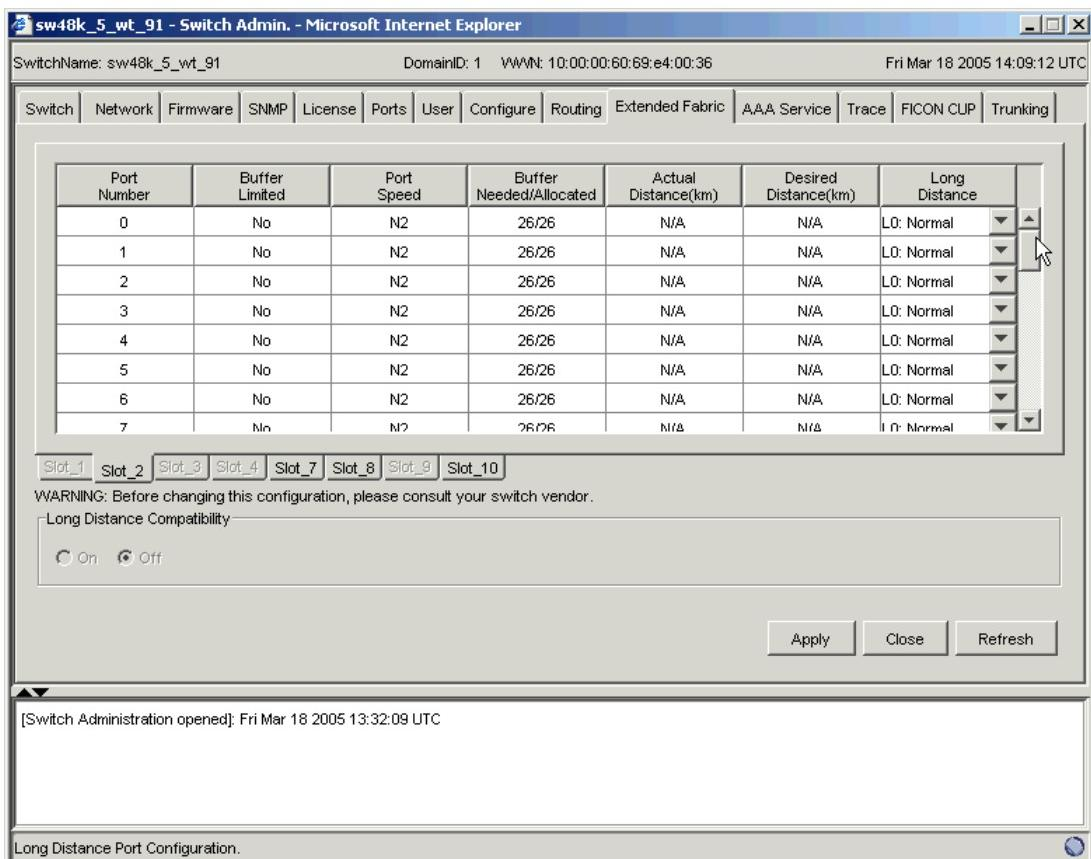

Figure 24 Extended Fabric tab
The Extended Fabric tab of the Switch Admin module displays information about the port speed, long-distance setting, and buffer credits, as shown in Figure 24. Use this tab to configure the long-distance setting of a port. For detailed information on managing extended fabrics, see the *HP StorageWorks Fabric OS 5.x administrator guide*.
- a. Double-click the **Desired Distance** box for the port, as shown in Figure 24 on page 76.